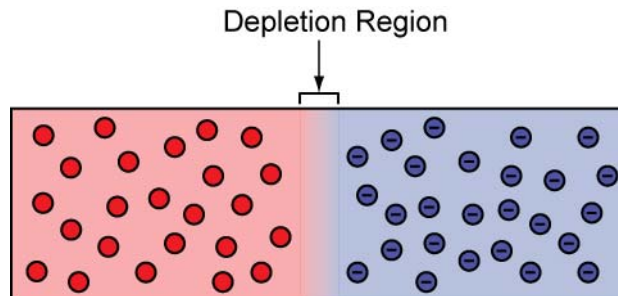

Figure 5: Depletion Region between the p-type and n-type Semiconductors
- Depletion Region: The depletion region is the region at the juncture of p-type and n-type semiconductors, in which there is neither an excess of electrons nor of holes (Figure 5). The electrons from the n-type semiconductor that are close to the p-n junction diffuse across the p-n junction, combining with the holes from the p-type semiconductor. The depletion region is formed very quickly when the p-type and n-type semiconductors come in contact with each other. When there is not a power source connected to the diode, the depletion region is very thin compared to the p-type and n-type semiconductors.